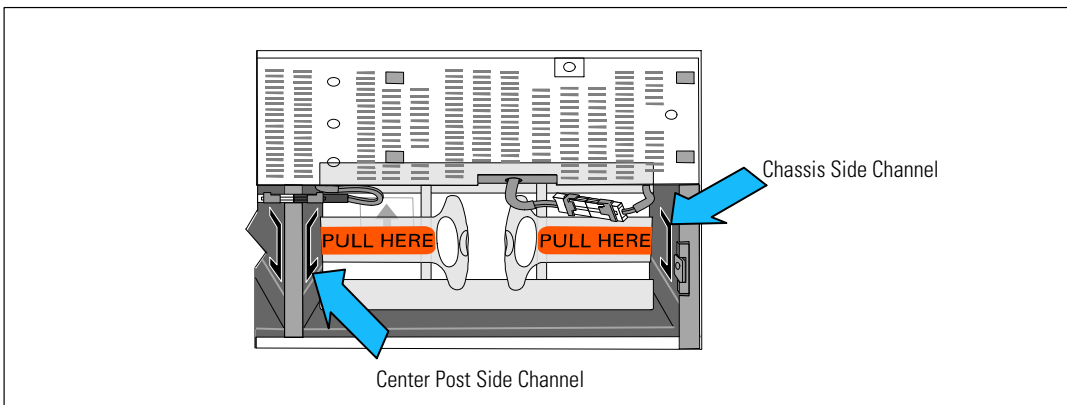

Figure 15. Inserting the bracket into the Channels
12 Replace the left (L) and right (R) battery retaining brackets (see Figure 15):